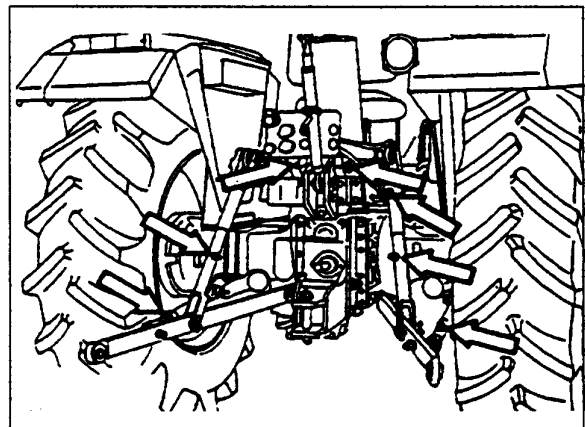

Fig.5-28b - Engrasadores del enganche tripantal.
- Enganche tripantal: 7 engrasadores (Fig.5-28b)